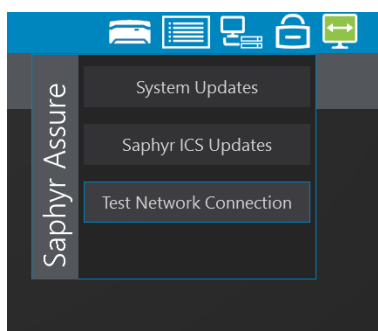

Figure 12. Test Network Connection
2. Select the **Lock** icon in the top toolbar to display the **Bionano Assure** dropdown and select the **Test Network Connection** button, see in **Figure 12**. The network test can result in several possible messages shown in **Table 8**.